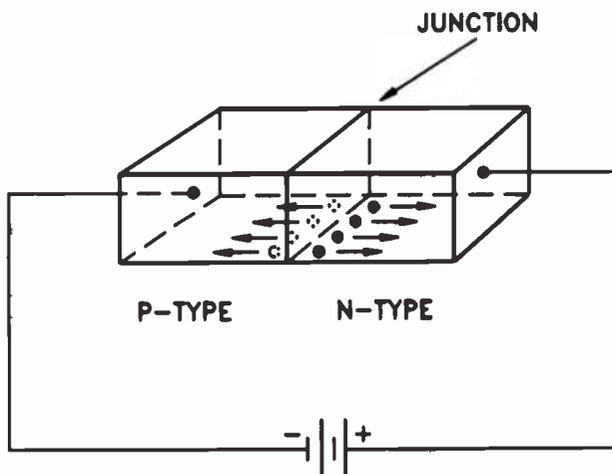

Figure 12. A reverse-biased junction.
**Reverse Bias.** Figure 12 shows a reverse bias applied to a junction diode. The negative battery terminal connects to the p-type section and attracts holes away from the junction, increasing the shortage of holes on the p side of